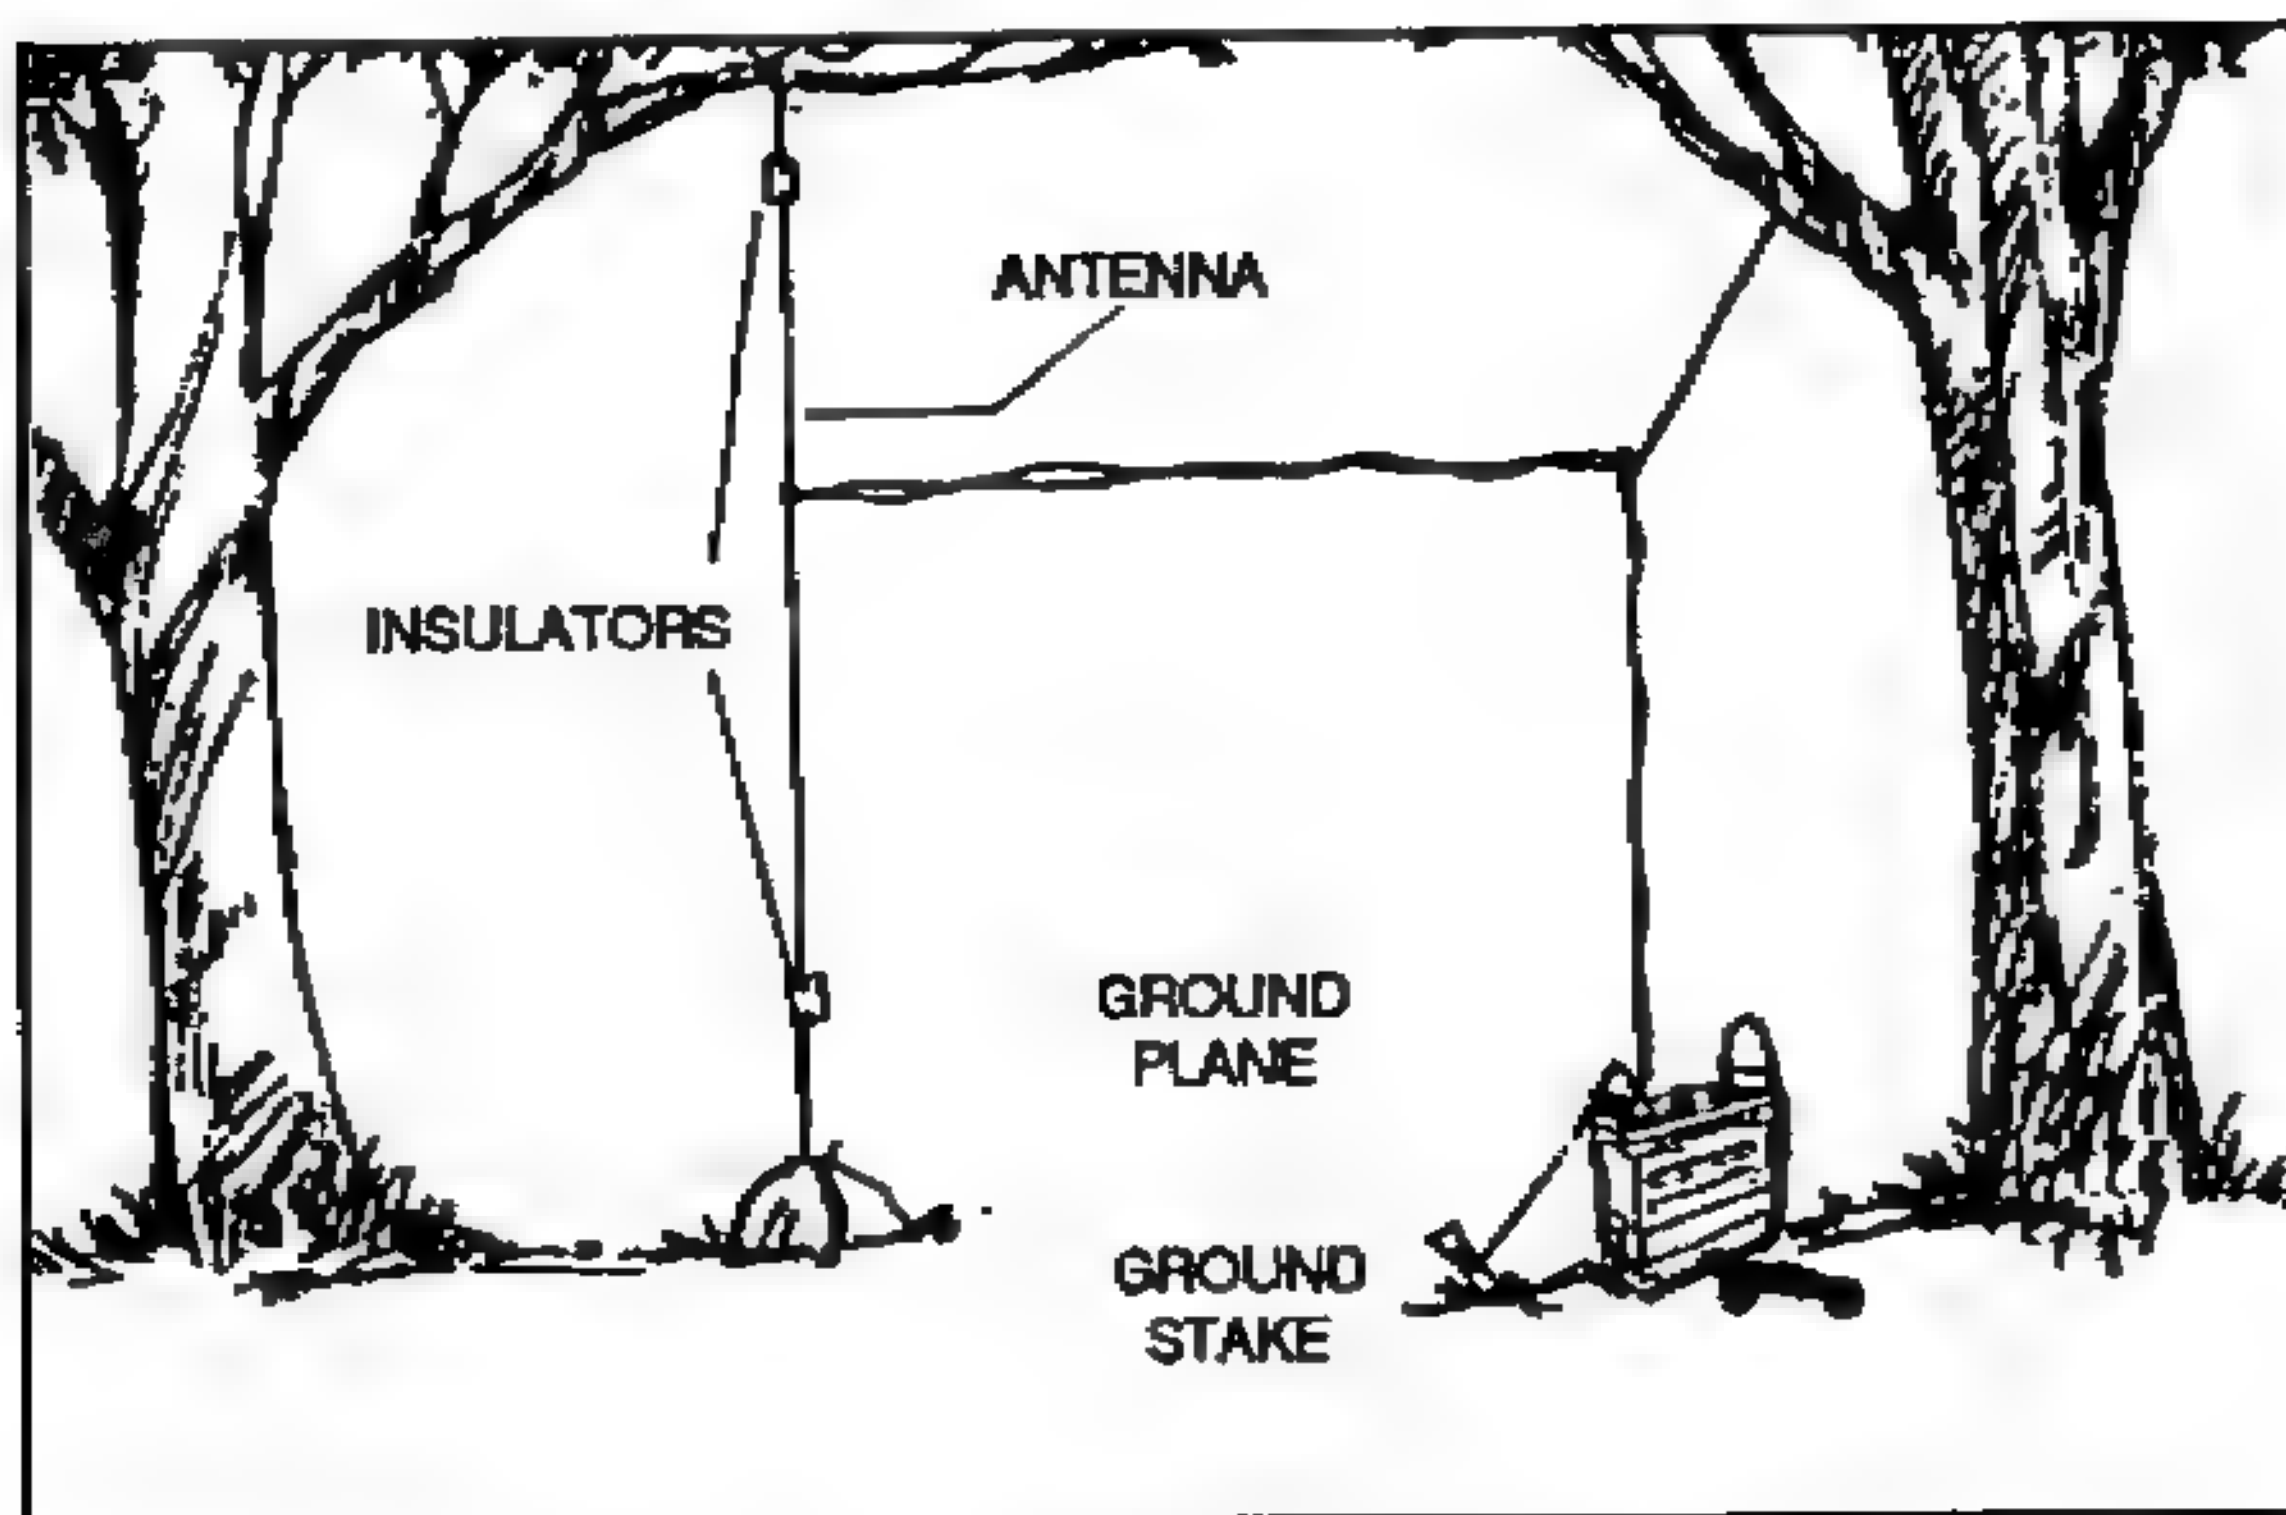

Figure 7-14. Expedient patrol antenna.
(2) *Expedient patrol antenna.* This is another antenna that is easy to carry and quick to set up (Figure 7-14, page 7-20). The two radiating wires are cut to the length shown in Table 7-2 for the operating frequency. For the best results, the lead-in should extend at least 1.8 meters (6 feet) at right angles (plus or minus 30 degrees) to the antenna section before dropping to the radio set. The easiest way to set up this antenna is to measure the length of the radiating elements from one end of the lead-in (WD-1) and tie a knot at that point. The two wires are separated: one is lifted vertically by a rope and insulator;